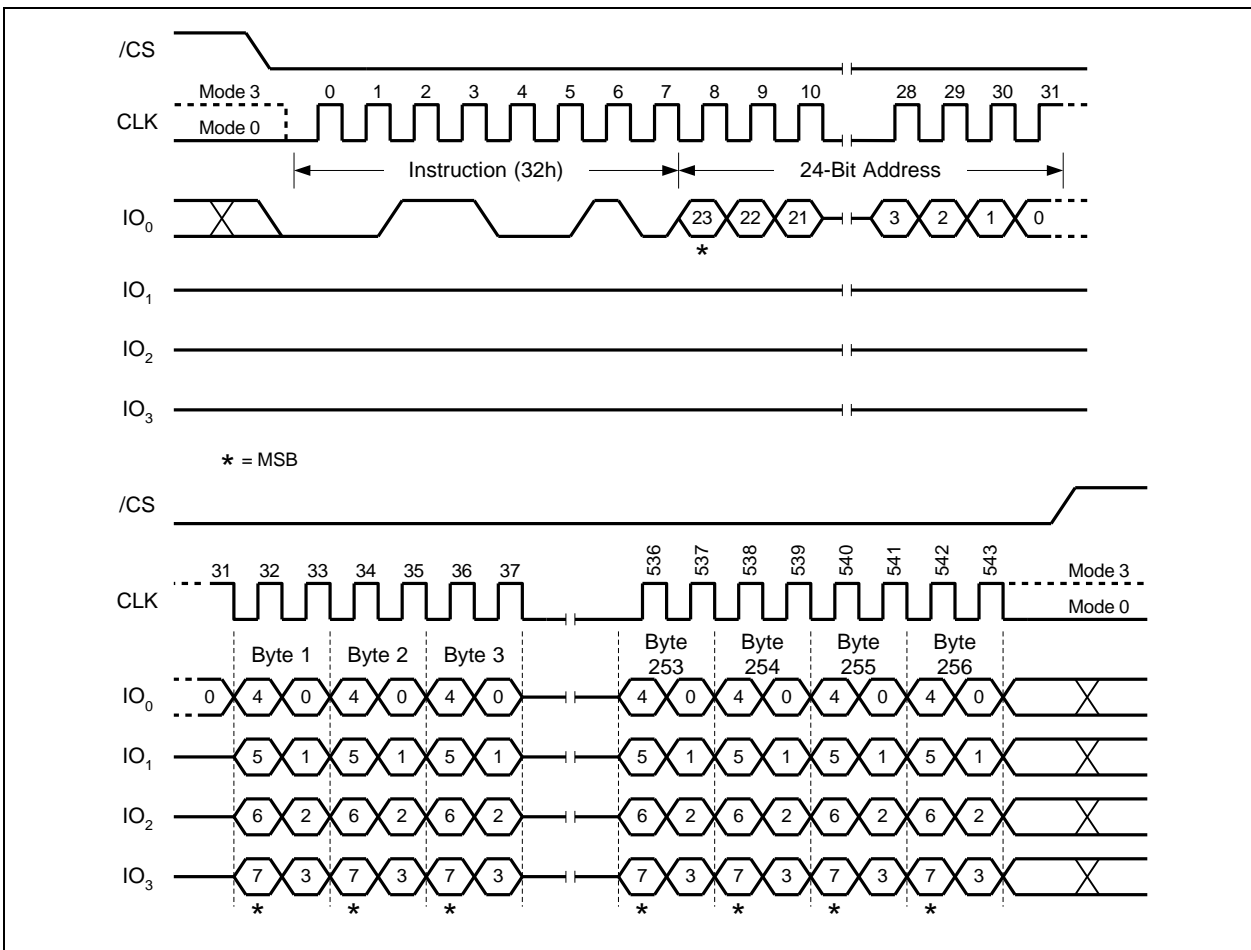

Figure 30. Quad Input Page Program Instruction (SPI Mode only)
To use Quad Page Program, the Quad Enable (QE) bit in Status Register-2 must be set to 1. A Write Enable command must be executed before the device will accept the Quad Page Program command (Status Register-1, WEL=1). The command is initiated by driving the /CS pin low then shifting the command code "32h" followed by a 24-bit address (A23-A0) and at least one data byte, into the IO pins. The /CS pin must be held low for the entire length of the command while data is being sent to the device. All other functions of Quad Page Program are identical to standard Page Program. The Quad Page Program command sequence is shown in Figure 30.